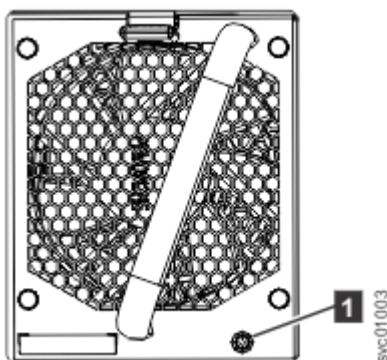

Figure 159. Fan module LED
1. Identify the fan module to be replaced. When lit, the amber LED on the front of the fan module (1 in Figure 159 on page 201) identifies a fault.